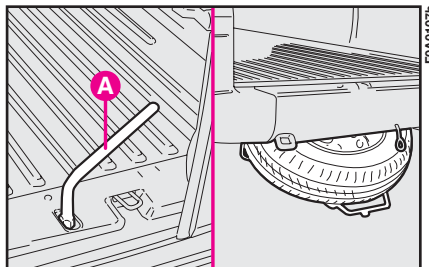
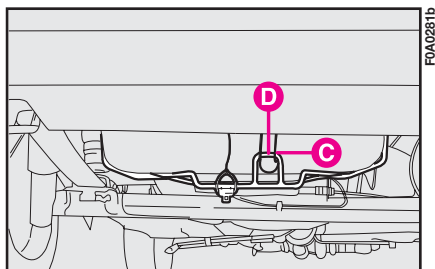
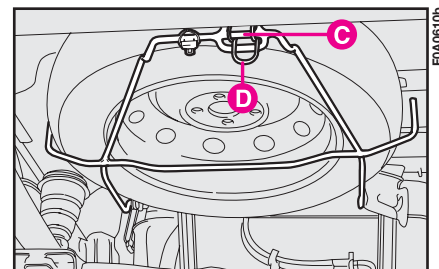

fig. 6
fig. 15
fig. 16
6) Loosen the bolt fastening the spare wheel with the wrench **A-fig. 6**.
2) Hook the top of support bracket **C**-fig. 15 to the anchoring ring **D** and tighten the support locking bolt fig. 6.
– hook the lower side of the support bracket **C**-**fig. 16** to the anchoring spring **D** and tighten the support bolt **fig. 6**.